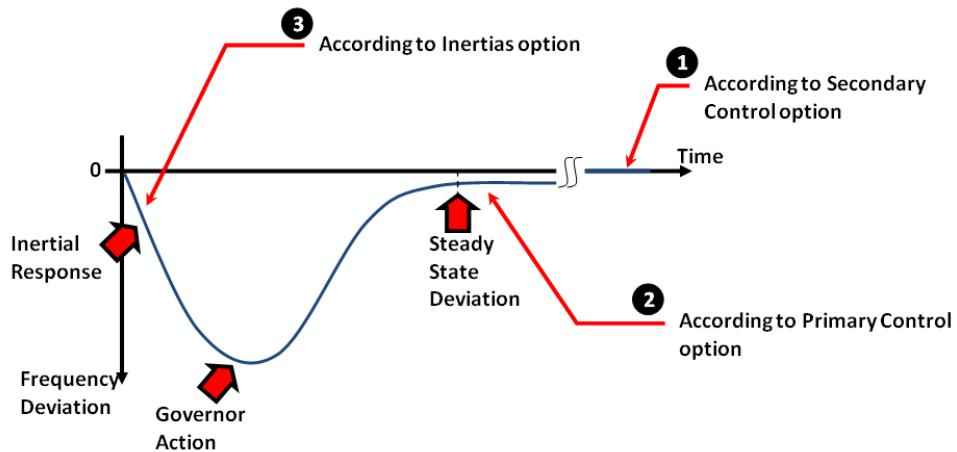

Figure 25.4.4: Frequency Deviation Following an Unbalance in Active Power
Figure 25.4.4 illustrates the different types of active power control.
**Note:** The Secondary Control option will take into account the participation factors of the machines defined within a *Power-Frequency Controller* (*ElmSecctr*) in order to compensate for the frequency deviation. In such a case, the final steady state frequency is considered to be the nominal value (number 1 in Figure 25.4.4). The Primary Control option will take into account the frequency droop (MW/Hz) stated in every machine in order to determine the active power contribution. Depending on the power unbalance, the steady state frequency will deviate from the nominal value (number 2 in Figure 25.4.4). The According to Inertias option will take into account the inertia/acceleration time constant stated in every machine in order to determine its active power contribution. In this case, depending on the power unbalance, the steady state frequency will deviate from the nominal value (number 3 in Figure 25.4.4).